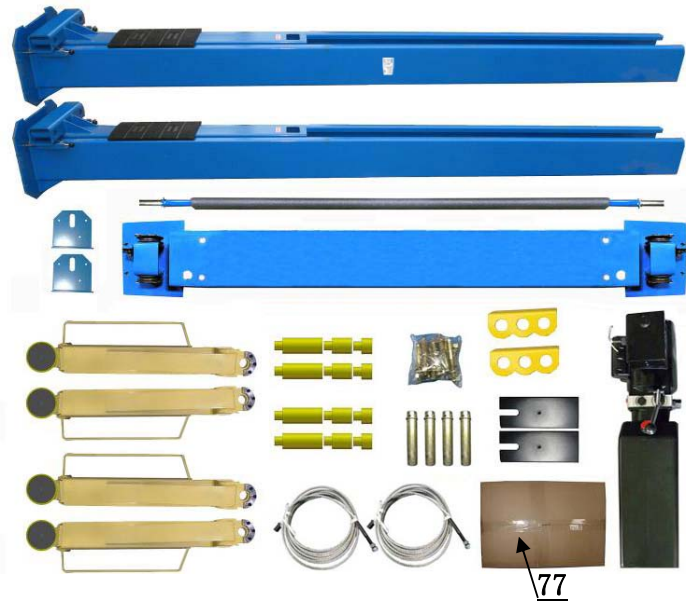

Fig. 12
4.2 For Model 10CX (See Fig. 12,13).